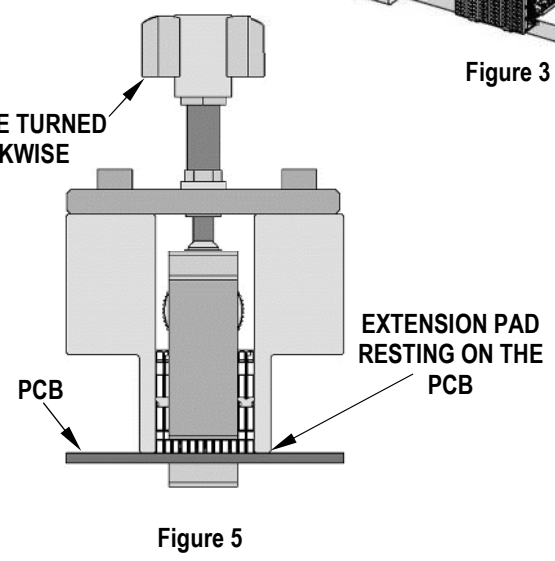

Figure 5
5. Position the tool frame over the closed clamp, and turn the T-handle clockwise until the extension pads contact the PCB surface. See Figure 5.